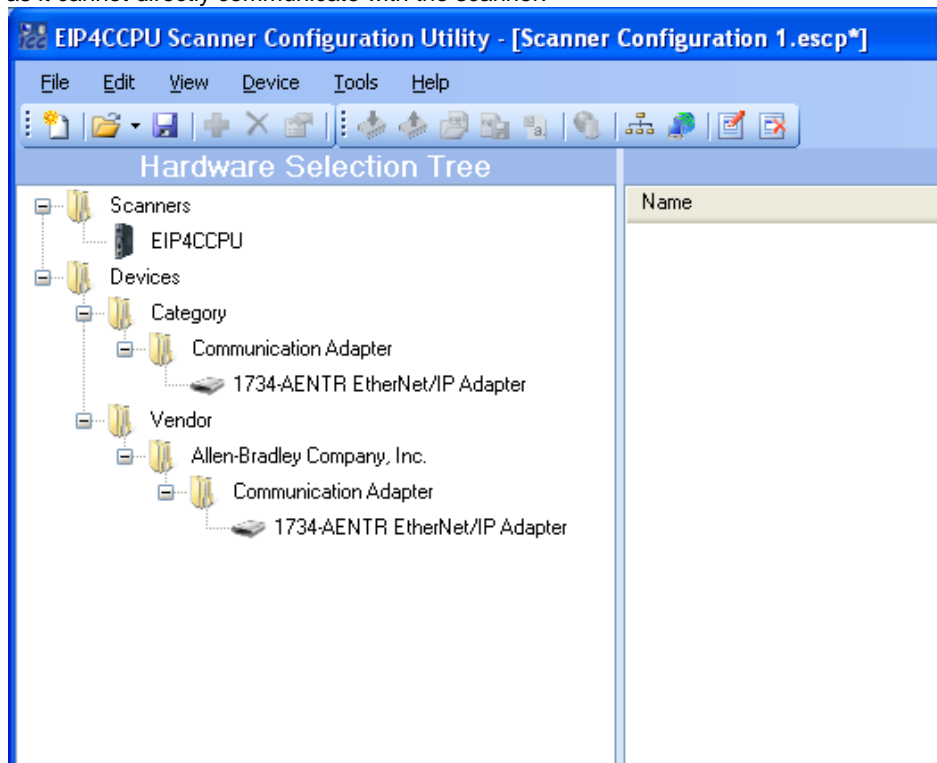

Figure 49: Added POINT IO Adapter to Hardware Selection Tree
3. Once the EDS files have been registered verify that the adapter device has been added to the Hardware Selection Tree (see Figure 49). Note that the module device will not be visible in the Hardware Selection Tree as it cannot directly communicate with the scanner.